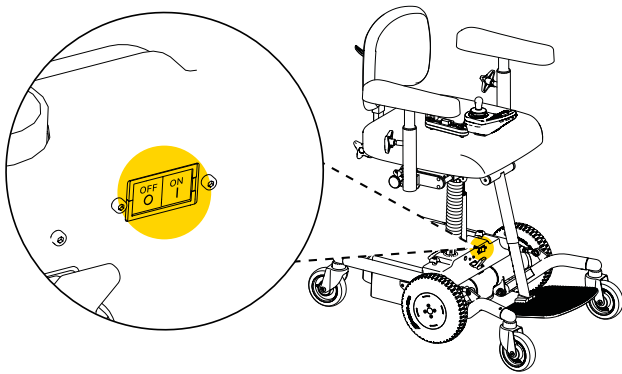

Figure 3.4. Contact breaker
- The device moves by rolling on a flat surface. The brake must be disengaged and the automatic fuse switched off in order to roll the device. To release the brake, pull the lever to the "OFF" position. To activate the brake, push the lever to the "ON" position, see Figure 3.2. To switch off the automatic fuse, press "OFF". Prior to charging and when the device is to be put back into service, the circuit breaker must be reset; press "ON", see Figure 3.4. After the circuit breaker has been disconnected, the control unit must be restarted twice to restore the device's functions.
- In the event of a longer period of storage, the battery should be disconnected. This can be effected using the contact breaker, see Figure 3.4. Press "OFF" to disconnect the batteries. When the battery is disconnected, it must be charged every four months in order to retain its functionality. Prior to charging and when the device is to be put back into service, the circuit breaker must be reset; press "ON". After the circuit breaker has been disconnected, the control unit must be restarted twice to restore the device's functions. Fully charge the batteries before use, see 2.3. Charging.
- The battery must be disconnected during transport. This can be effected using the contact breaker, see Figure 3.4. Press "OFF" to disconnect the batteries. Press "ON" to reset the circuit breaker. After the circuit breaker has been disconnected, the control unit must be restarted twice to restore the device's functions.